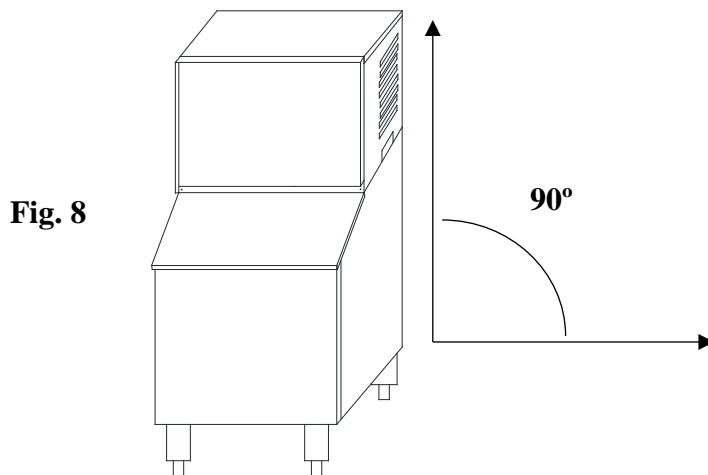

Fig. 8
7. Ensure the setup is level by using a carpenter’s level or similar tool and rotating the adjustable legs (Fig. 8).